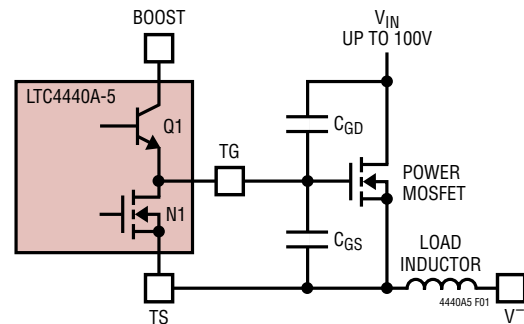

Figure 1. Capacitance Seen by TG During Switching
A simplified version of the LTC4440A-5's output stage is shown in Figure 1. The pull-down device is an N-channel MOSFET (N1) and the pull-up device is an NPN bipolar junction transistor (Q1). The output swings from the lower rail (TS) to within an NPN V_{BE} (~0.7V) of the positive rail (BOOST). This large voltage swing is important in driving external power MOSFETs, whose $R_{DS(ON)}$ is inversely proportional to its gate overdrive voltage ($V_{GS} - V_{TH}$).